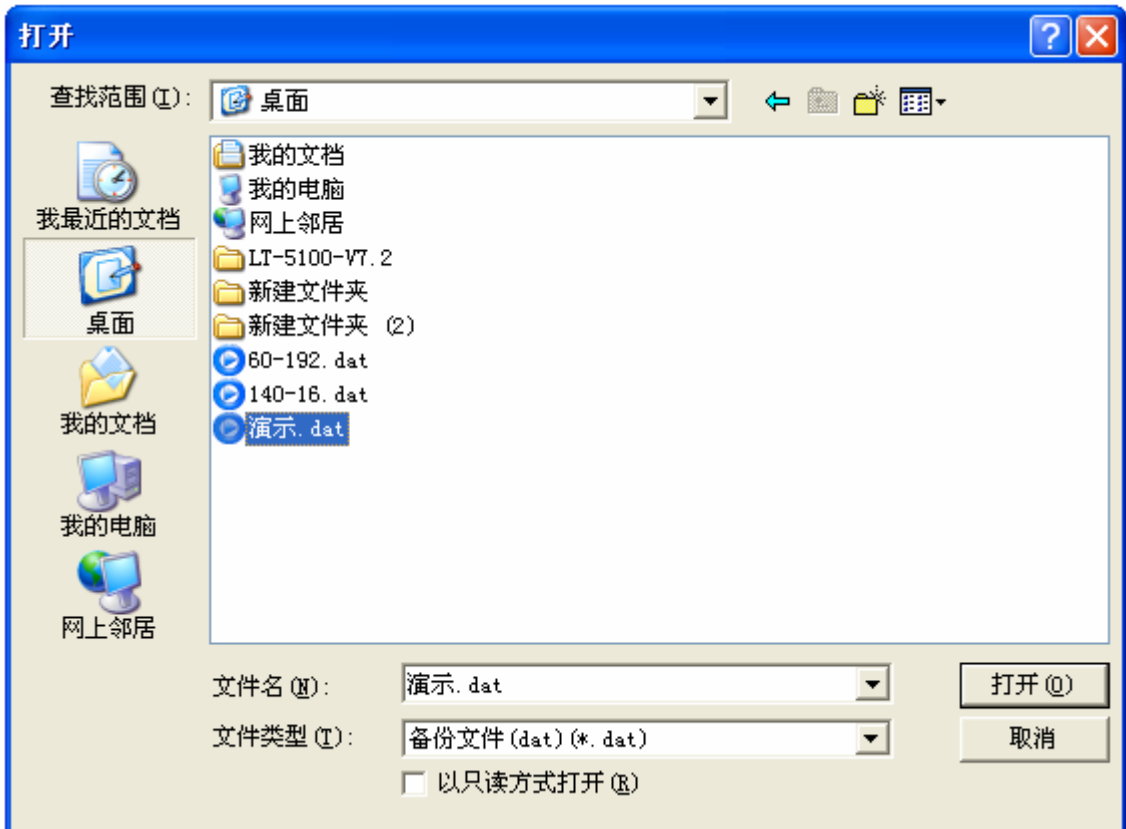

Figure 5: Load DAT configuration file
3. Click **Restore**, Load the corresponding DAT configuration file, as Figure 5: